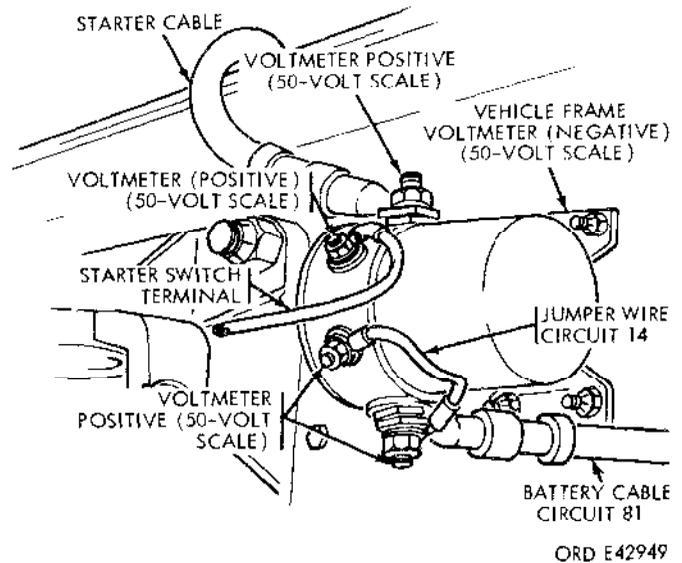

Figure 2-25. Solenoid test hookup.
(1) Set the voltmeter on the 50-amp scale. Connect the negative (black) lead (fig. 2-25) to the vehicle battery ground or frame. Connect the positive (red) lead to the battery side of the solenoid. The meter should read a battery voltage of 23 to 26 volts.
13) Move the positive (+) red lead of the voltmeter to the small terminal on the starter side of the solenoid (fig. 2-25). The meter should read battery voltage.
15) If the battery voltage reading is present move the red positive (+) lead to the large terminal of the solenoid on the starter side (fig. 2-25). Depress the starter switch lever. The starter solenoid should close and the meter should read battery voltage.